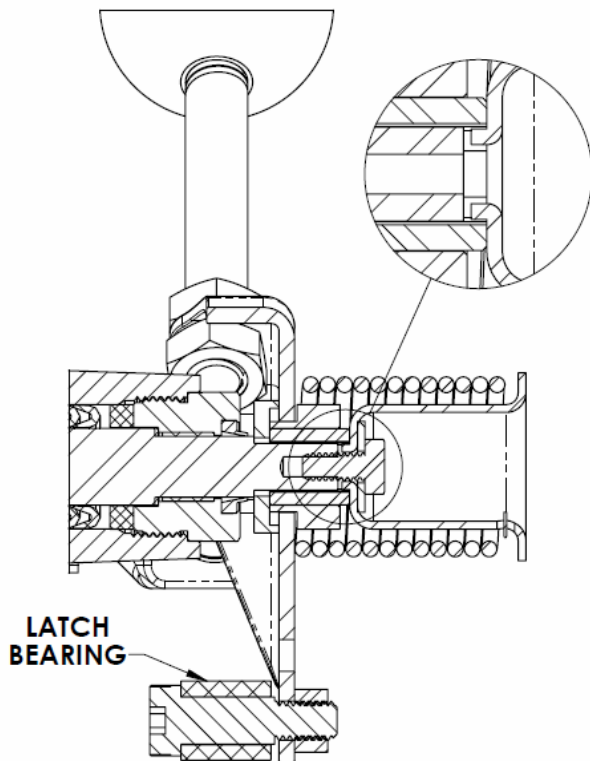
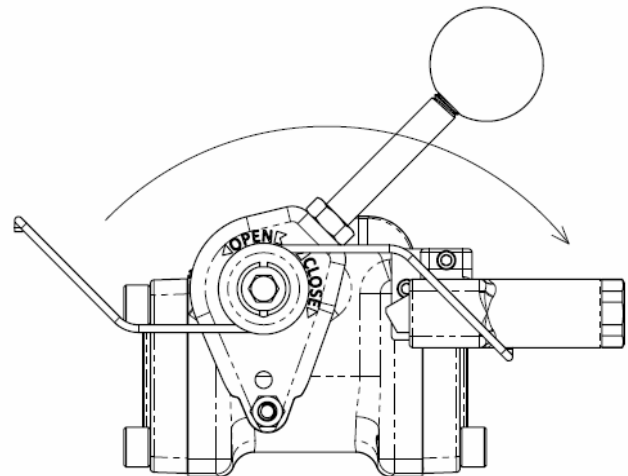

FIGURE 1: INSTALLATION OF SPRING RETAINER
FIGURE 2: INSTALLATION OF HANDLE SPRING
4. With Clapper closed, install Handle Assembly [17] onto Stem [2] with Latch Bearing facing down (Figure 1).
7. Install Spring Retainer [5] into Thermal Link [9] as shown (Figure 1) with Handle Spring [6] arm oriented as shown (Figure 2).
9. Wind Handle Spring [6] arm clockwise and attach to Latch Assembly [15] (Figure 2).
1. With Clapper closed, Install Handle Assembly [17] onto Stem [2] with Latch Bearing facing down (Figure 1).
4. Install Spring Retainer [5] into Thermal Link [9] as shown (Figure 1) with Handle Spring [6] arm oriented as shown (Figure 2).
6. Wind Handle Spring [6] arm clockwise and attach to Latch Assembly [15] (Figure 2).